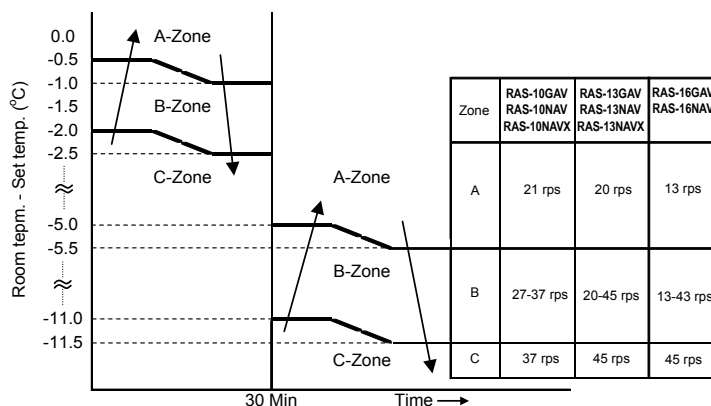

Fig. 8-2-11
- Compressor motor speed is controlled by the difference value of room temperature and set temperature as shown in Fig. 8-2-11